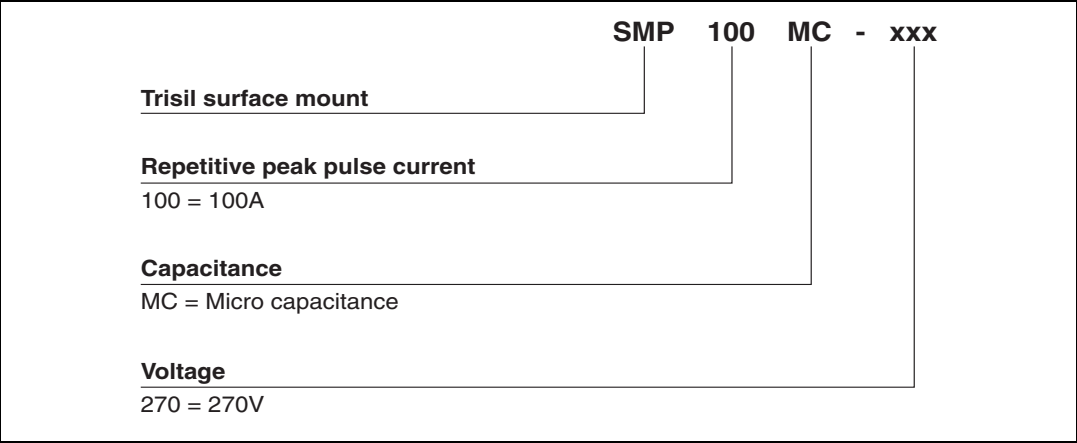

Figure 18. Test circuit 3 for dynamic  $I_H$  parameter
3. See Figure 18: Test circuit 3 for dynamic  \$I\_H\$  parameter